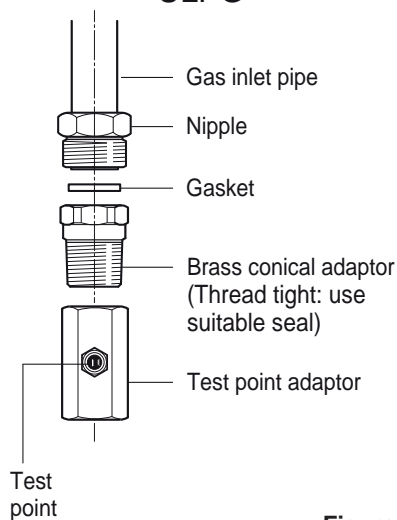

Figure 10
- Before connecting the appliance to the gas main, mount the brass conical adaptor onto the gas inlet pipe, upon which the gasket has been placed (figs. 10 - 11). Conical adaptor and gasket are supplied with the appliance (packed with conversion kit for use with Natural Gas or ULPG).
- For ULPG models the gas supply is connected to the test point adaptor which is supplied with the appliance (fig. 10) and ensure that the supply pressure is regulated to 2.75 kPa.
- If the cooker is suitable for use with Natural gas and must be converted for use with ULPG, before connecting to the gas mains remove the appliance gas regulator and replace with test point adaptor (see figs. 10 - 11).
- If the cooker is suitable for use with ULPG and must be converted for use with Natural gas, before connecting to the gas mains remove the appliance test point adaptor and replace with gas regulator (see figs. 10 - 11).